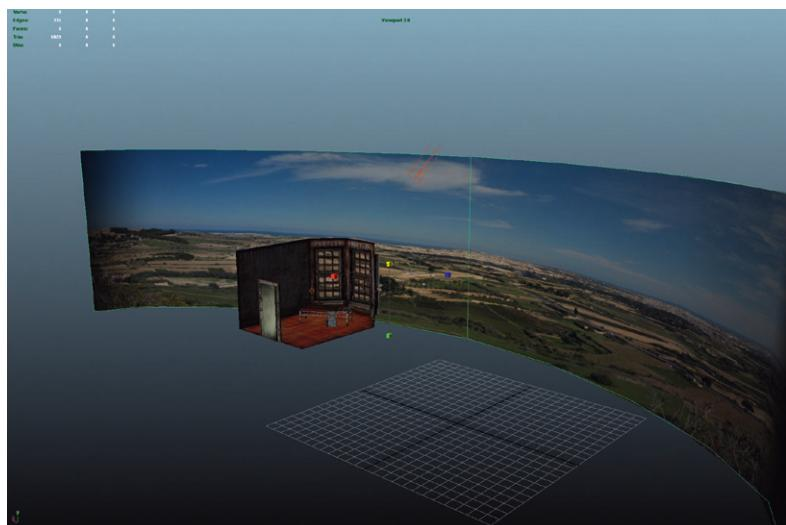

FIG 7.35 Positioned cyc.
Step 17: Rotate, scale, and position the cyc as needed (Fig. 7.35). Be sure to take a look at what you can see inside the room.